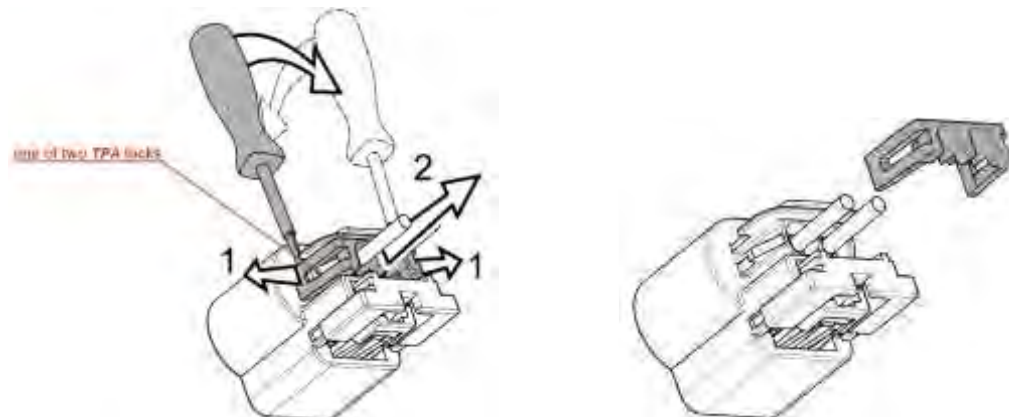

Figure 34
- b. As illustrated in Figure 34, unlock (arrow 1) and remove (arrow 2) Terminal Position Assurance (TPA) completely using removal tool 10804886 (or equivalent).